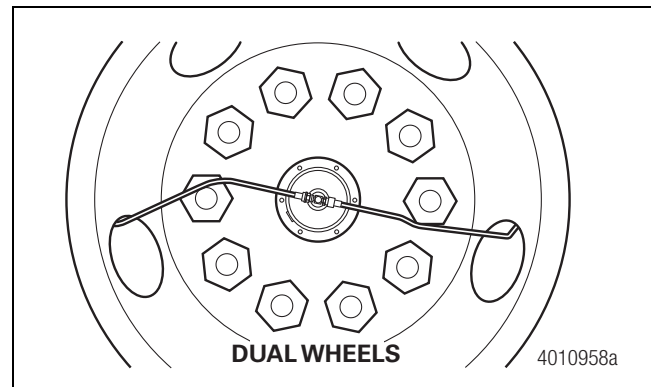
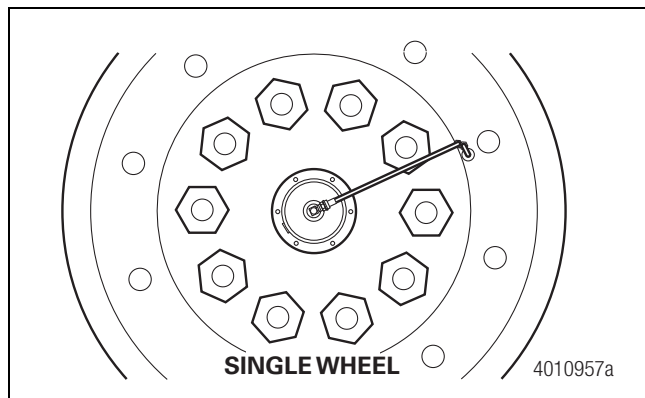

Figure 5.8
Figure 5.9
5. Follow the wheel manufacturer's instructions to reinstall the wheels. Verify that the thru-tee fittings point TOWARD the tire valve stems to ensure that you'll be able to correctly route the tire inflation system hoses. Figure 5.8 and Figure 5.9.